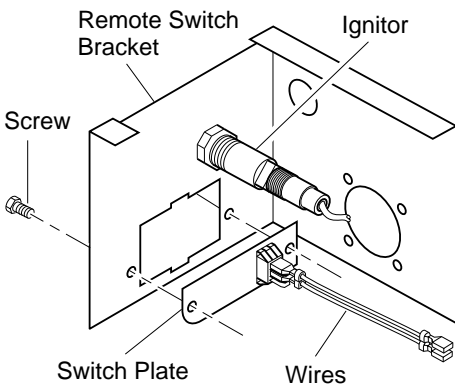

Figure 32 - Switch Plate and Wiring Harness
3. Remove switch plate (see Figure 32). Discard after removing.